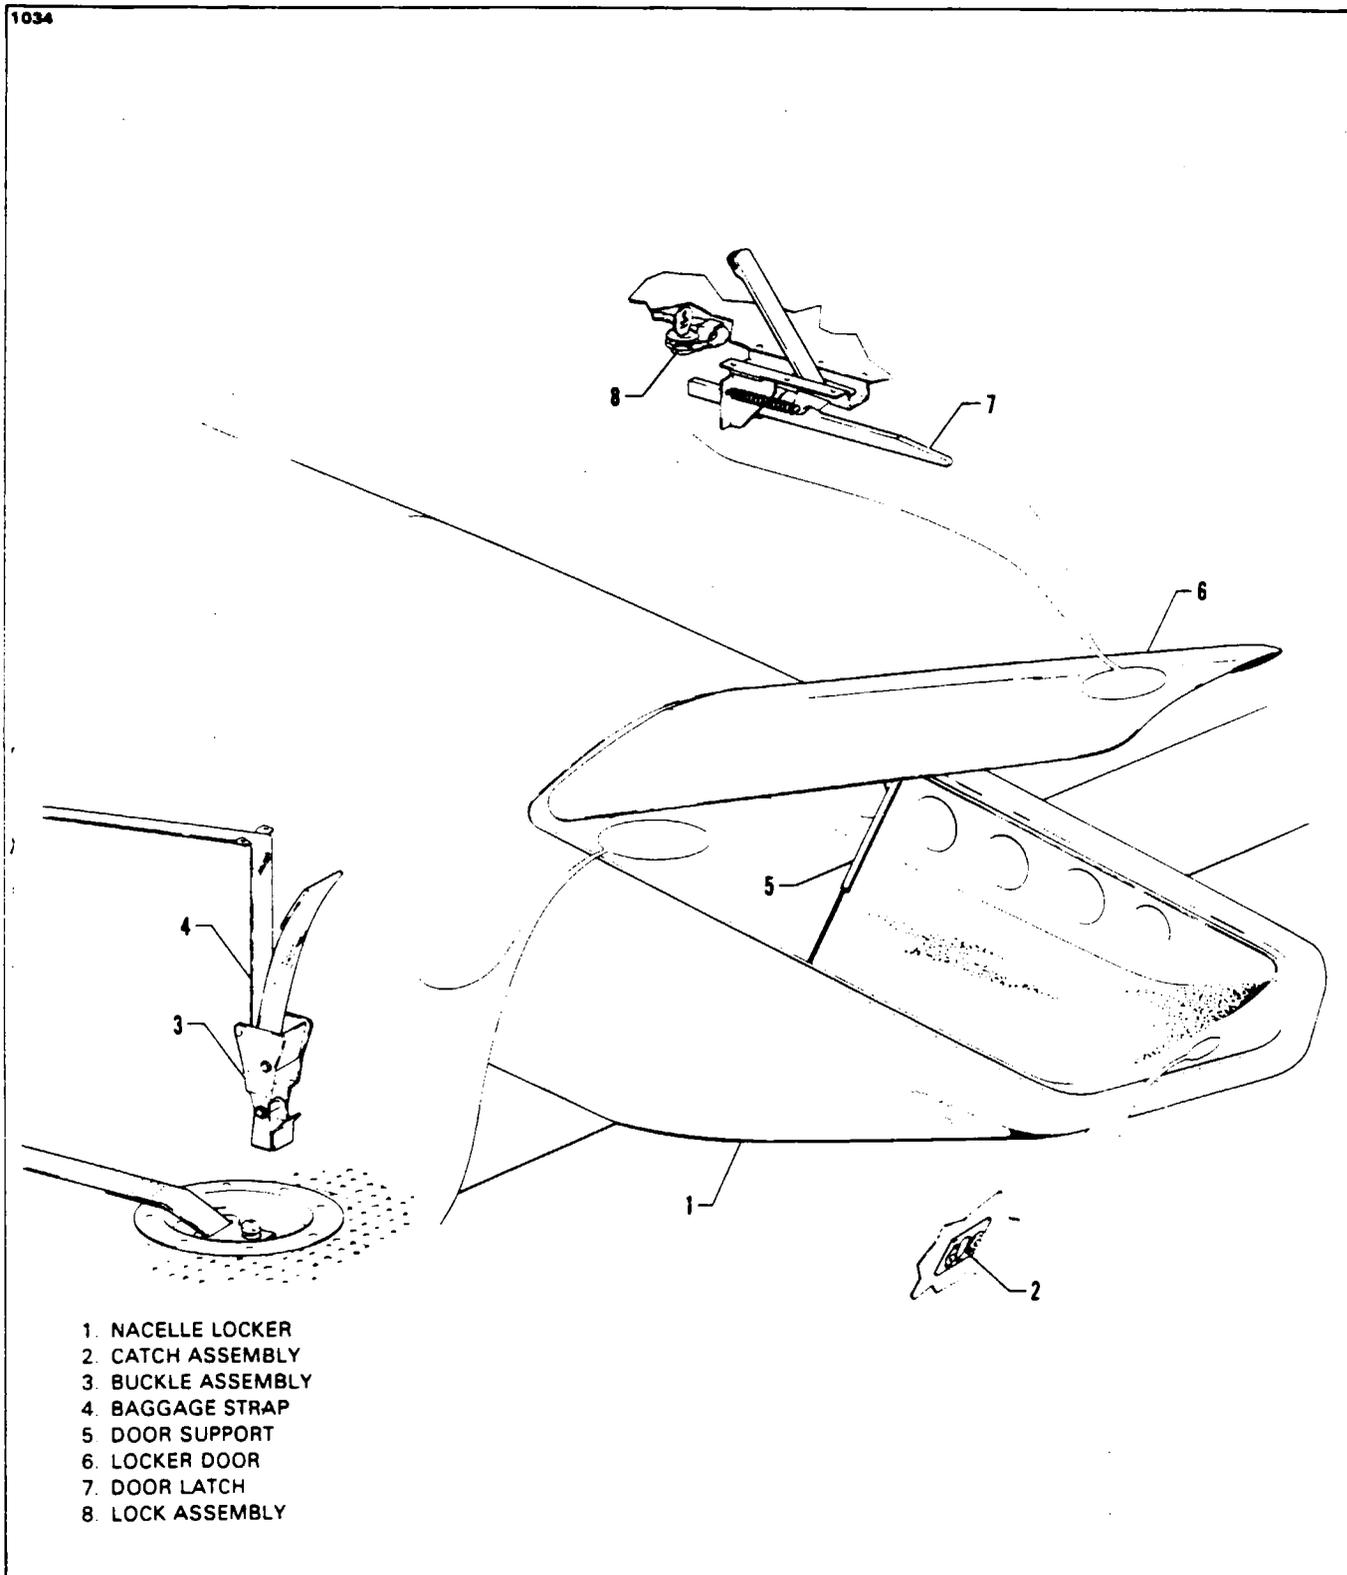

Figure 52-4. Nacelle Wing Locker Latch Assembly
**WING LOCKER DOORS.** (Refer to Figure 52-4.)